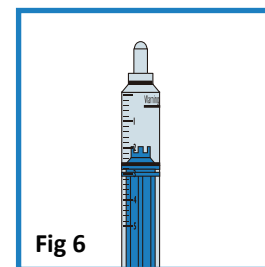

Fig 6
5. Depress the plunger all the way and when the fiducial line of the piston covers with the zero graduation line on the barrel, the needle retracts automatically (Fig 6).